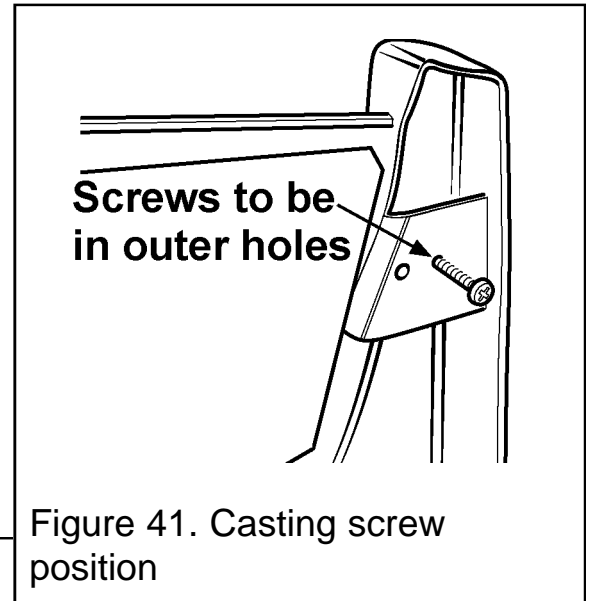

Figure 41. Casting screw position
14.5 Check that the two screws in the back of the fire front casting are in the outer threaded holes. If they are in the inner holes, relocate them (See figure 41).